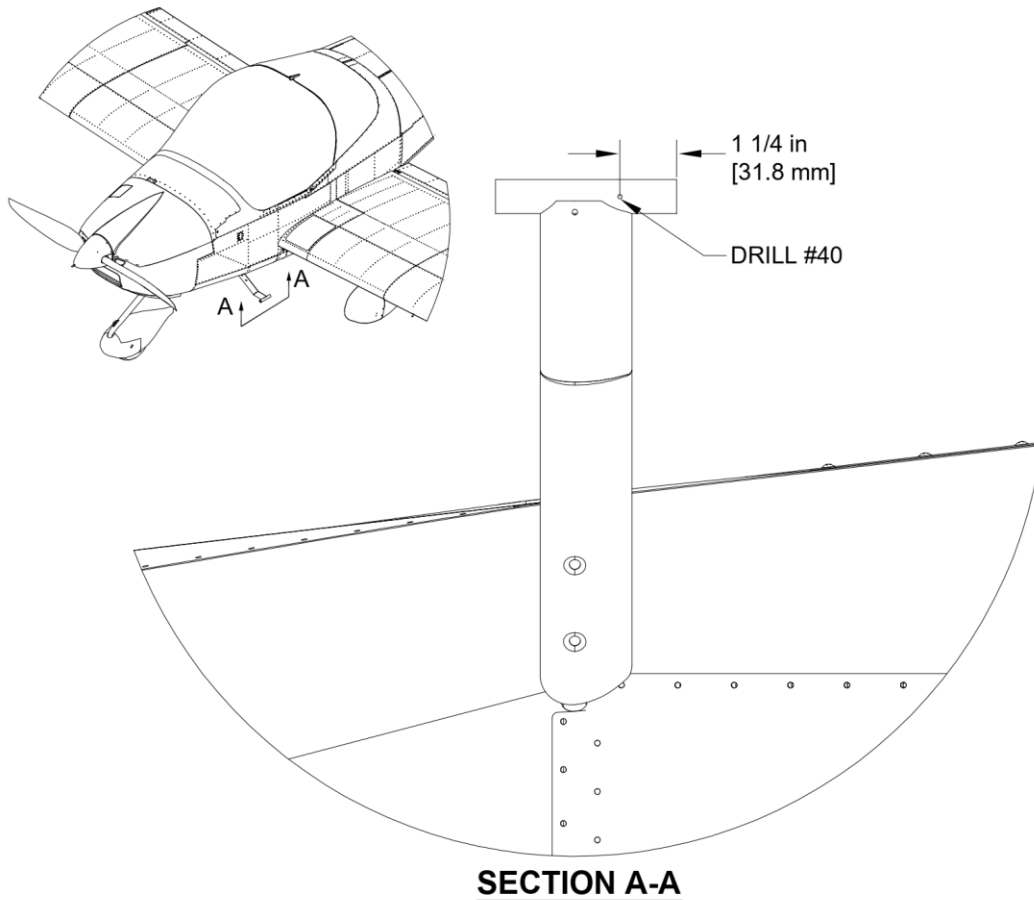

FIGURE 1: DRAIN HOLE LOCATION
Step 1: Drill #40 a hole in the bottom surface of the step at the location shown in Figure 1.